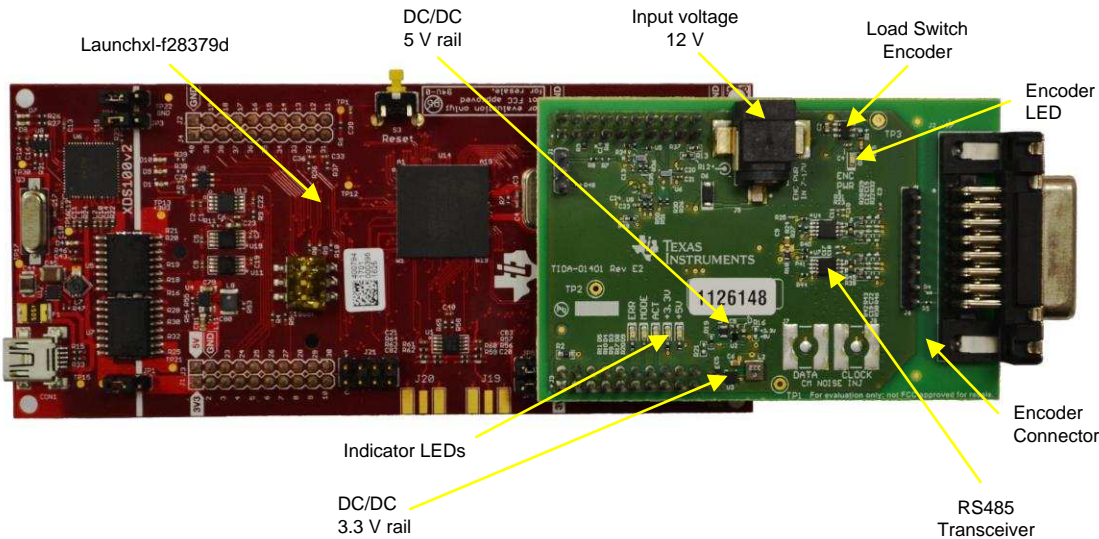

Figure 4. Hardware Overview
Figure 4 shows the top side of the TIDA-01401 PCB with the Launchxl-F28379D. The headers and default jumper settings are explained in Section 3.1.1.2.
Prior to working with the TIDA-01401 board, make sure that the correct resistor settings are applied (see Table 6). The default jumper configuration is shown on the board picture in Figure 4.
3. Follow the example as described in controlSUITE to compile and run the code on the LaunchPad with the design connected as seen in Figure 4.